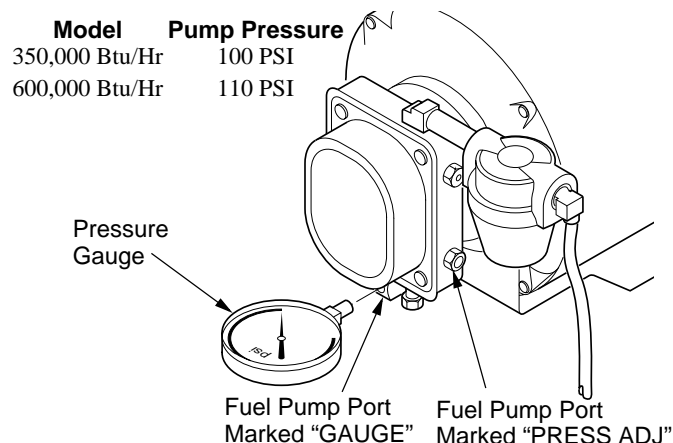

Figure 11 - Adjusting Pump Pressure
2. Install accessory pressure gauge (part number 110380-01) to fuel pump port marked "GAUGE" (see Figure 11, page 10).
4. Adjust pressure. Use small flat blade screwdriver to turn slotted screw at fuel pump pressure adjusting port. Turn screw clockwise to increase pressure. Turn screw counterclockwise to decrease pressure. See specifications in Figure 11, page 10, for correct pressure for each model.